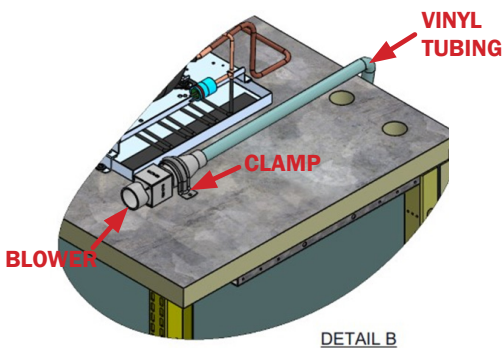

Fig. 32 Vinyl tubing to PVC blower
6. Now connect the other end of the Vinyl tubing to the Ship-loose PVC Blower (Fig. 32). The Blower must always be located behind the CDU or CDU metal housing. It must be secured with a ship-loose clamp on its adapter body.